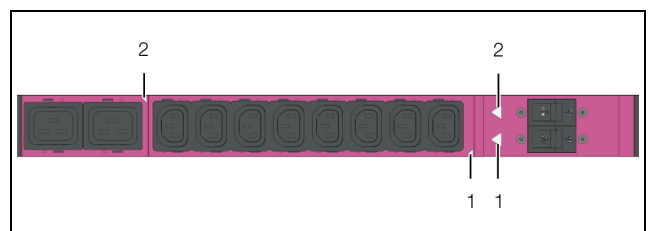

Fig. 79: Assignment of slots to the fuse
For the PDU variant "32 A", the assignment of the fuses to the individual slots is also indicated with identically coloured triangles. Whereby, those triangles located on the same side of the PDU belong together (see fig. 79, item 1 and 2).